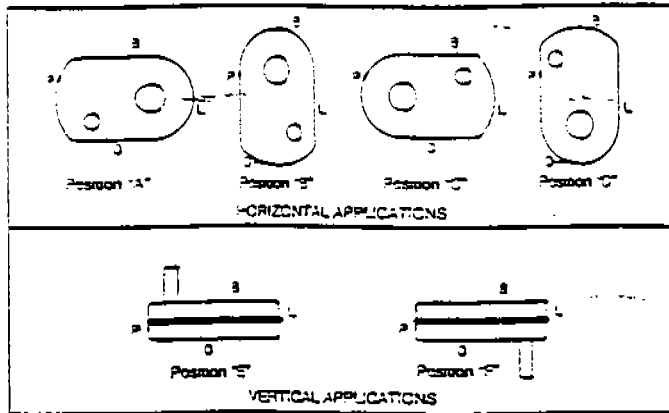

Fig. 1 — Mounting Positions
2. Determine the running positions of the reducer. (See Fig. 1) Note that the reducer is supplied with either 4 or 7 plugs: 4 around the sides for horizontal installations and 1 on each face for vertical installations. These plugs must be arranged relative to the running positions as follows:
The running position of the reducer in a horizontal application is not limited to the four positions shown in Figure 1. However, if running position is over 20° either way from sketches, the oil level plug cannot be used safely to check the oil level, unless during the checking the torque arm is disconnected and the reducer is swung to within 20° of the positions shown in Figure 1. Because of the many possible positions of the reducer, it may be necessary or desirable to make special adaptations using the lubrication fitting holes furnished along with other standard pipe fittings, stand pipes and oil level gauges as required.
† Refer to Fig. 1 on page 2 for mounting positions.
Notes: If reducer position is to vary from those shown in Figure 1 either more or less oil may be required. Consult factory.